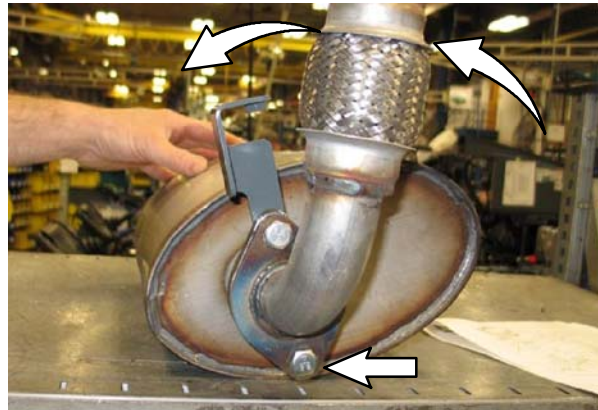
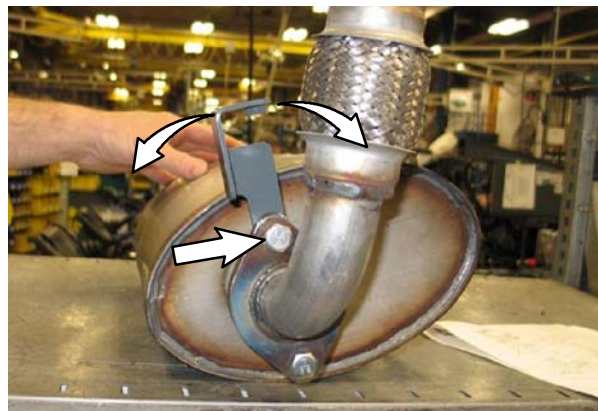
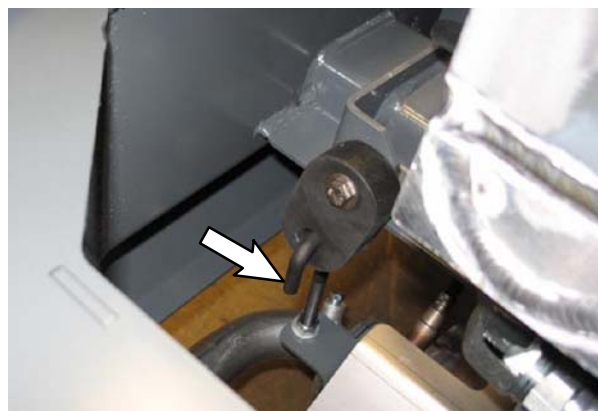
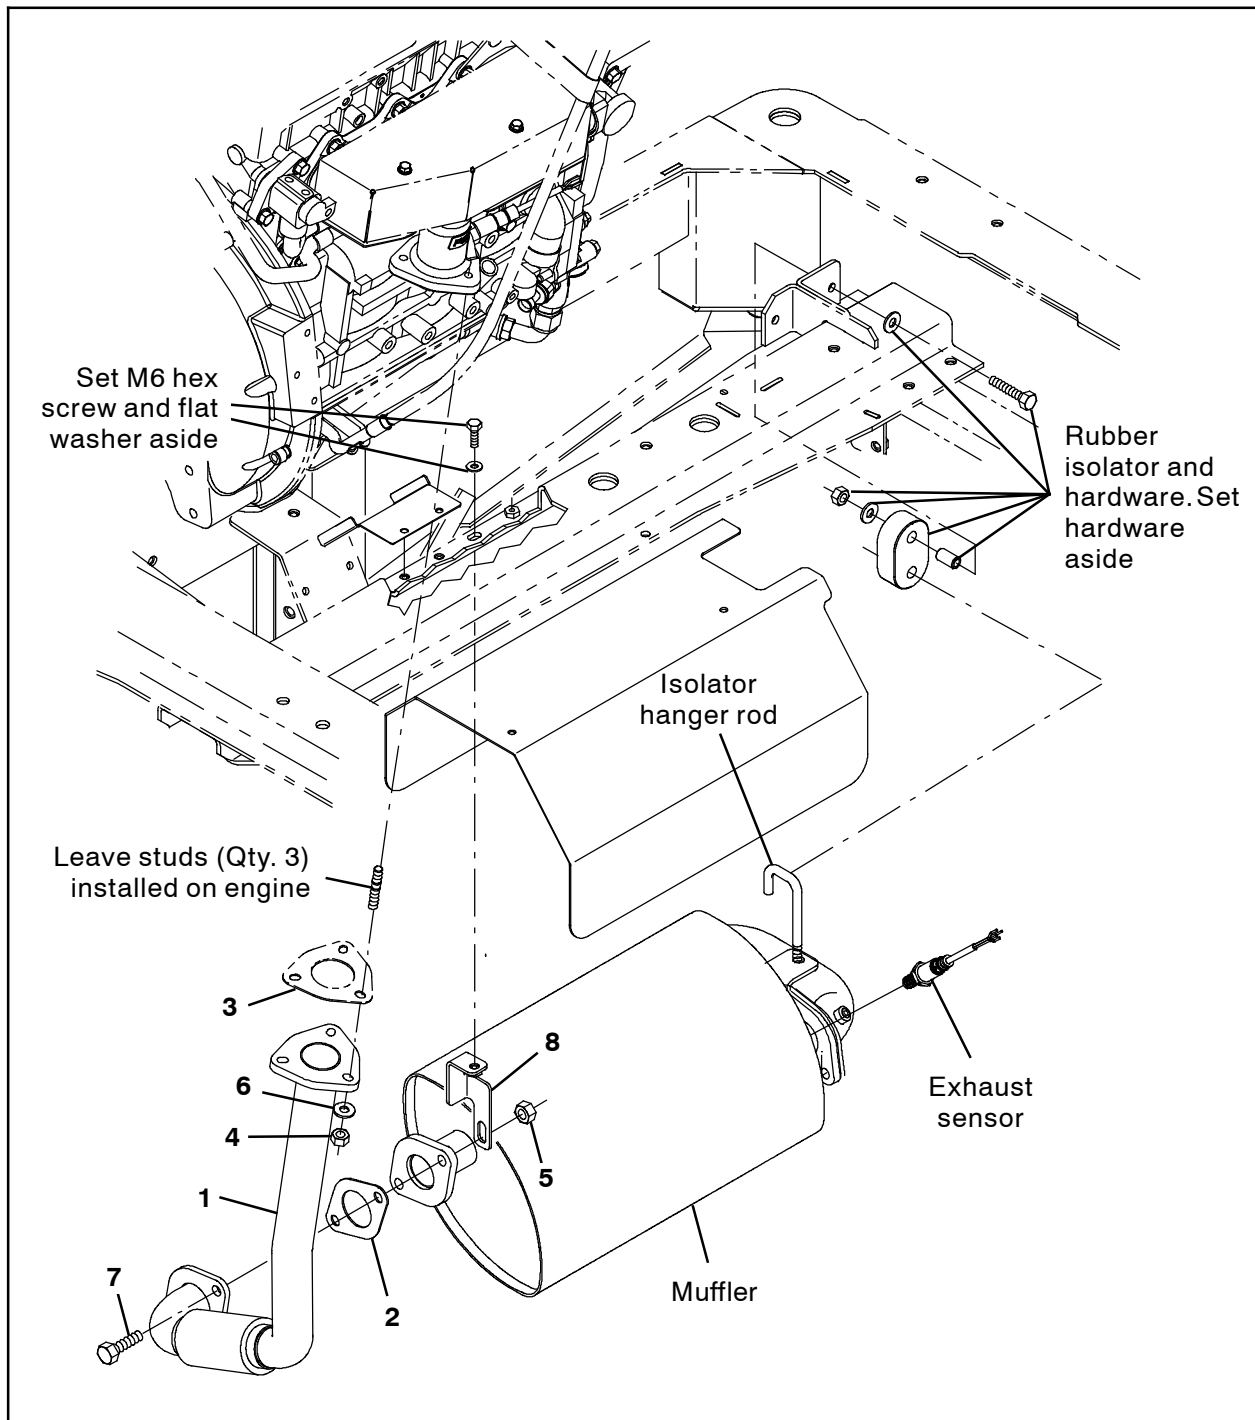

FIG. 2
FIG. 3
FIG. 4
FIG. 5
1. Disconnect the exhaust sensor from the main wire harness. (Fig. 5)
2. Disconnect the existing muffler bracket from the machine. Set the M6 hex screw and flat washer aside. Discard the removed muffler bracket. (Fig. 5)
3. Remove the isolator hanger rod / rubber isolator from the machine. Set the rubber isolator and all mounting hardware aside. Leave the isolator hanger rod installed on the exhaust system and in the rubber isolator. (Fig. 5)
5. Remove any remainder of the old exhaust pipe from the engine. Discard the three M8 hex nuts, three flat washers, and gasket. (Fig. 5)
6. Remove the remainder of the exhaust pipe from the muffler. Discard the exhaust pipe, muffler bracket, gasket, and both M10 hex screws and M10 hex nuts. (Fig. 5)
7. Use two M10 hex screws (5) and two M10 hex nuts (7) to install the new exhaust pipe (1), gasket (2), and muffler bracket (8) onto the muffler. Do not completely tighten the M10 hex screws and M10 hex nuts. (Fig. 5)
8. Twist the exhaust pipe (1) counter clockwise as tight as possible on the muffler and completely tighten the lower M10 hex screw (5) and M10 hex nut (7). (Fig. 2 / Fig. 5)
9. Snugly tighten the upper M10 hex screw (5) and M10 hex nut (7) enough to hold the muffler bracket (8) into place, but not so tight that the muffler bracket cannot be moved for later adjustment. (Fig. 3 / Fig. 5)
10. Position the exhaust system under the machine and reinstall the isolator hanger rod / rubber isolator onto the machine. Be sure the isolator hanger rod is installed in the rubber isolator as shown. (Fig. 4 / Fig. 5)
11. Use three M8 hex nuts (4) and three flat washers (6) to install the manifold gasket (3) and exhaust pipe (1) onto the engine. (Fig. 5)
12. Use the saved M6 hex screw and flat washer to install the muffler bracket (8) onto the frame of the machine. (Fig. 5)
13. Adjust the position of the muffler bracket (8) on the muffler / exhaust pipe (1) so there is no excessive stress on the exhaust pipe / muffler bracket and completely tighten the upper M10 hex screw (5) and M10 hex nut (7). (Fig. 5)
14. Reconnect the exhaust sensor to the main wire harness. (Fig. 5)